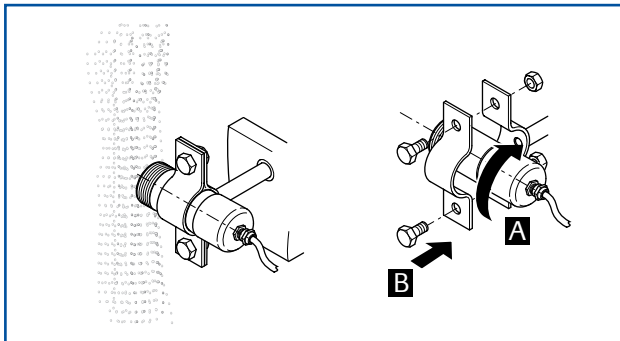

Fig. 5: Mounting with pipe clamp
- with the help of a pipe clamp (Fig. 5)